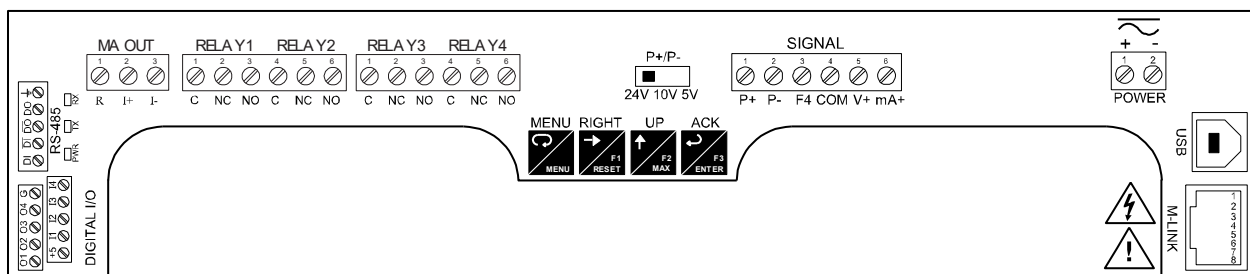

Figure 7. Connector Labeling for Fully Loaded PD2-6000
Power connections are made to a two-terminal connector labeled POWER on Figure 7 on page 12. The meter will operate regardless of DC polarity connection. The + and - symbols are only a suggested wiring convention.
Signal connections are made to a six-terminal connector labeled SIGNAL on Figure 7. The COM (common) terminal is the return for the 4-20 mA and the ± 10 V input signals.
Serial communications connection can be made to the onboard RS485 terminal block or USB connector shown in Figure 7. If RS232 is required, an RS485 to RS232 adapter (PDA7485) may be used. See Ordering Information on page 4 for additional information.
Relay connections are made to two six-terminal connectors labeled RELAY1 – RELAY4 in Figure 7. Each relay's C terminal is common only to the normally open (NO) and normally closed (NC) contacts of the corresponding relay. The relays' C terminals should not be confused with the COM (common) terminal of the INPUT SIGNAL connector.